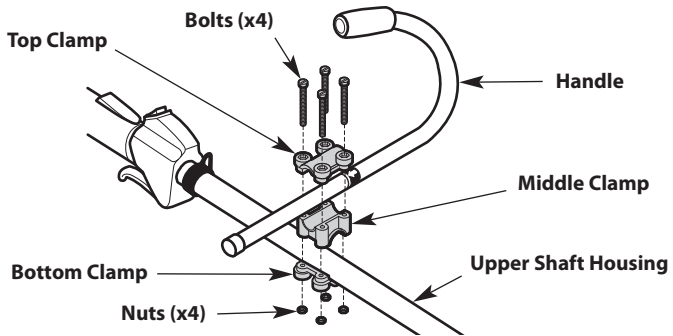

Fig. 4
1. Place the handle between the top clamp and middle clamp (Fig. 4). If necessary, rotate or flip the middle clamp until the holes in the top clamp and middle clamp align.
2. Place the clamps and handle over the upper shaft housing and onto the bottom clamp (Fig. 4).
- NOTE:** Make sure the curved portion of the handle is on the operator's left (Fig. 4).
3. While holding the pieces together, insert the bolts (x4) into the aligned holes (Fig. 4).
4. Screw a nut onto the end of a bolt, but only slightly. Push the nut into the hexagonal recess on the bottom clamp. Hold the nut in place with a finger to keep it in the recess. Tighten the bolt with a Phillips screwdriver, but do not tighten it completely (Fig. 4). Repeat this step for each nut and bolt.
1. Loosen the bolts (x4) slightly with a Phillips screwdriver (Fig. 4).